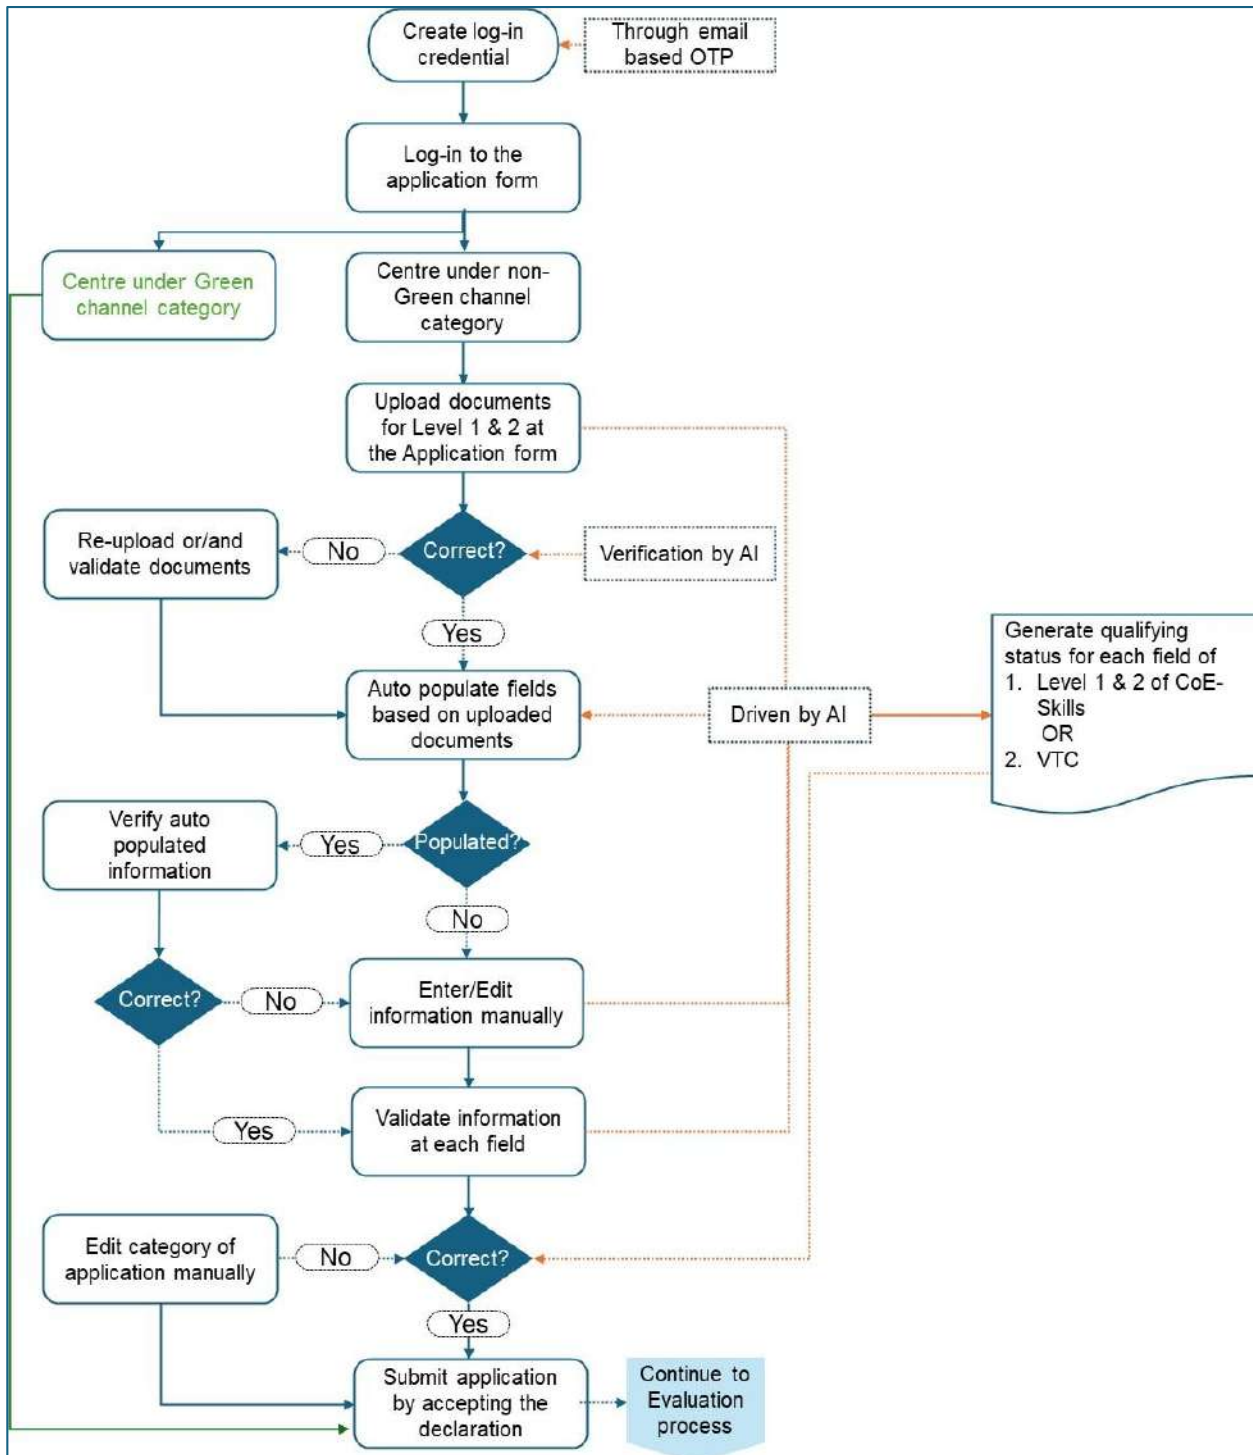

Figure 5: Application Process Flow
3.2.1 Any applicant operating a permanent Training Centre under any category specified in Section 3.1 may apply for empanelment as a Centre of Excellence - Skills (CoE-Skills) or Vocational Training Centre (VTC) as per prescribed process defined in Figure 5 through the application window of SIDH platform. The application is nomination based; Central Ministries/Departments, State Governments, Sectoral
regulatory bodies, Awarding Bodies including Sector Skill Councils, Industry Bodies are authorized to nominate the applicants to apply for a centre. Application form is enclosed as **Annexure I**. The application window will remain open throughout the year. The process is outlined at Figure 5 below: